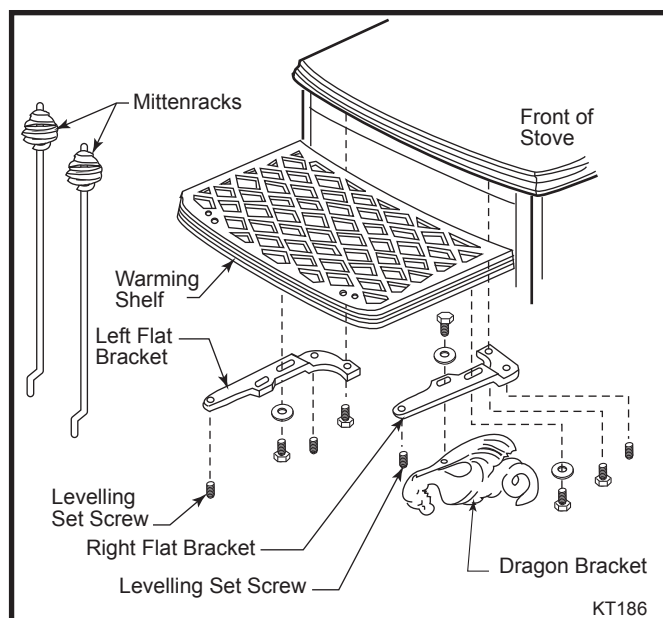

Fig. 1 Warming shelf parts.
1. Screw the levelling set screws into the bottom of the flat brackets as shown in Figure 1.